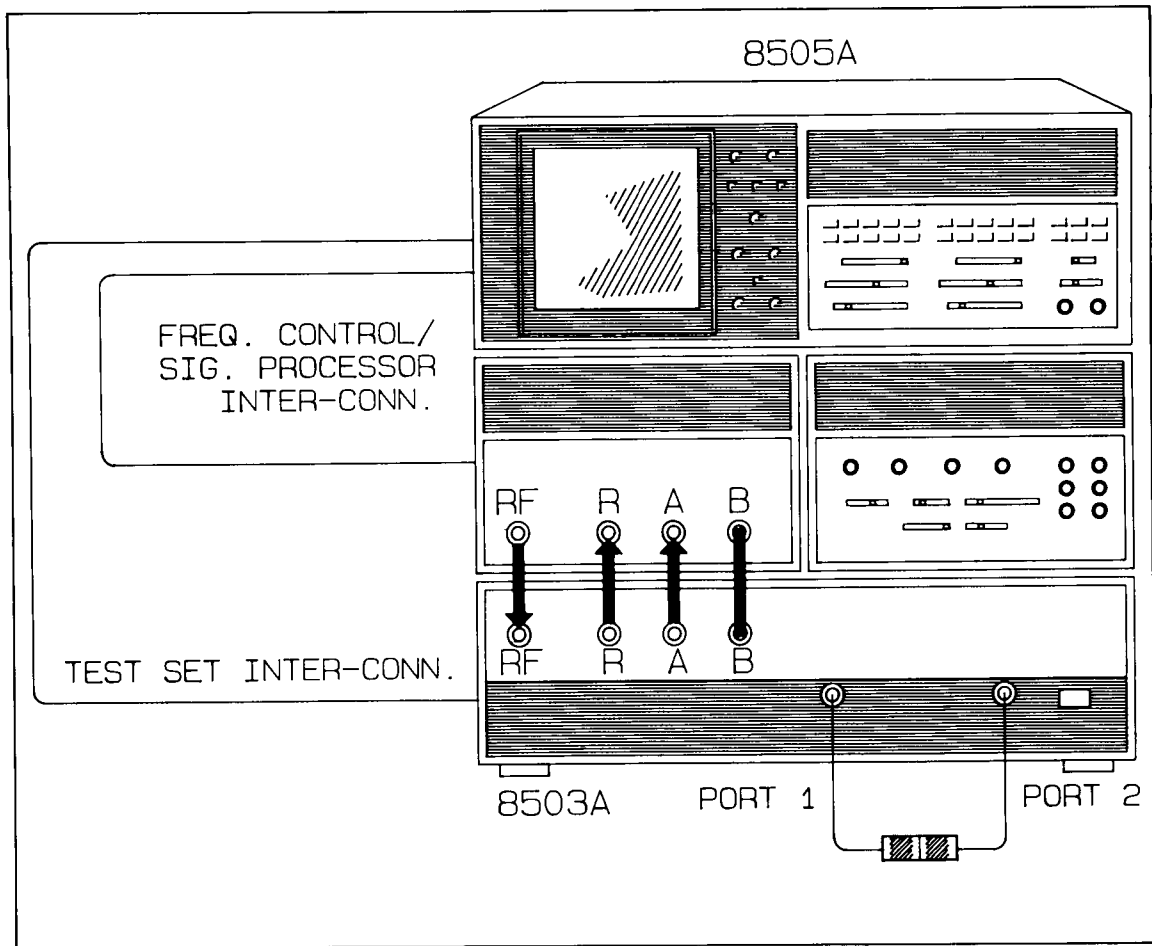

Figure 10-6 Insertion Loss Calibration Setup
- a. Connect the 8505A and the 8503A together as shown in Figure 10-6. Use a shorting connector to connect Port 1 and Port 2 of the 8503A together as shown in Figure 10-6.
Connect the 8505A to the 8503A as shown in Figure 10-6.
Connect the 8505A and the 8303A together as shown in Figure 10-6.